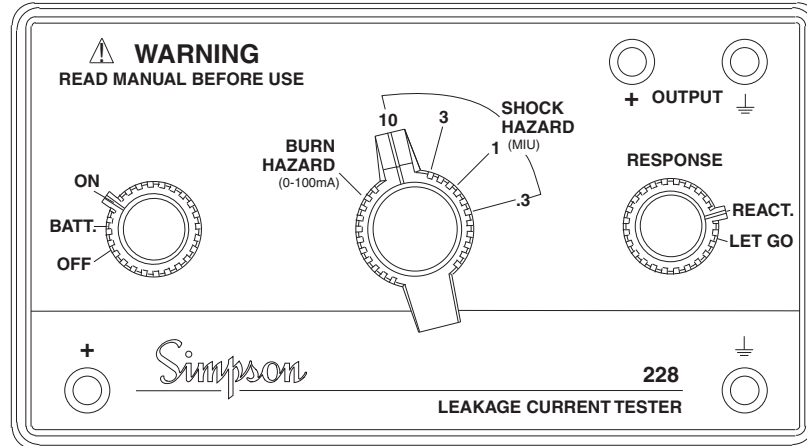

Figure 10
1. Turn Function Select Switch to 10MIU SHOCK HAZARD (see Figure 10 below).